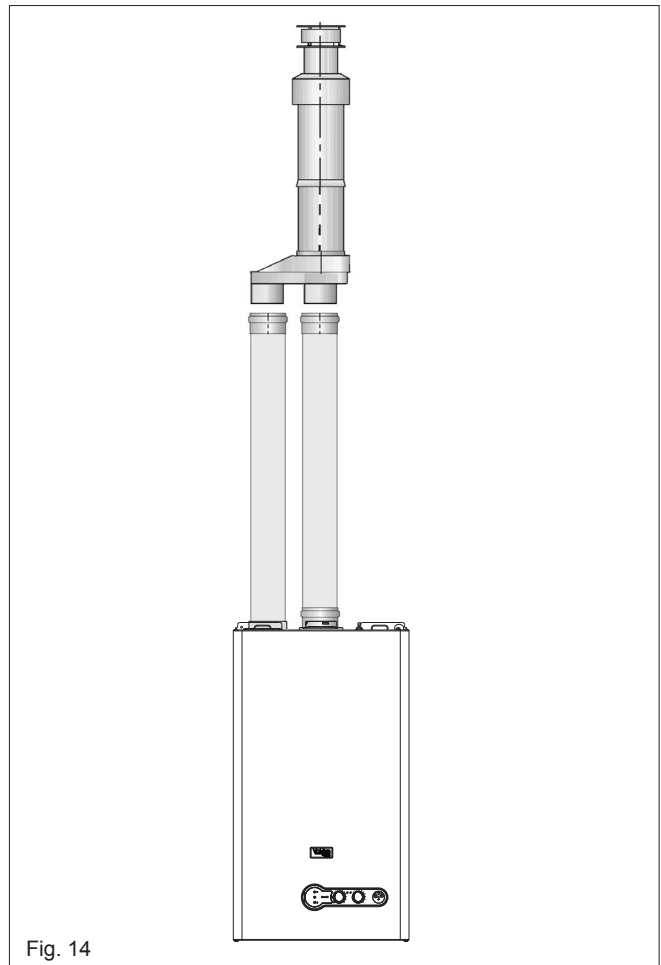

Fig. 14
If the vertical flue requires extension/s or additional bend/s, connect the required number of flue extensions or bends (up to the maximum equivalent flue length) between the boiler and vertical flue assembly (see fig. 14).
**VERTICAL TERMINATION (fig. 14)**